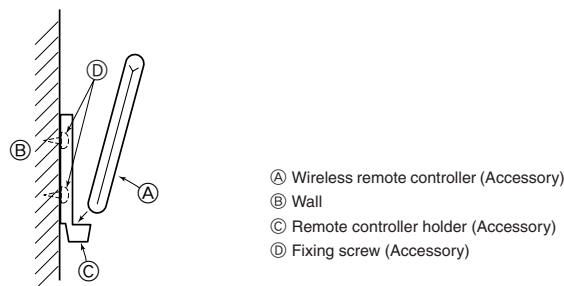

Fig. 9-1
9.1. Wireless remote controller (Fig. 9-1)